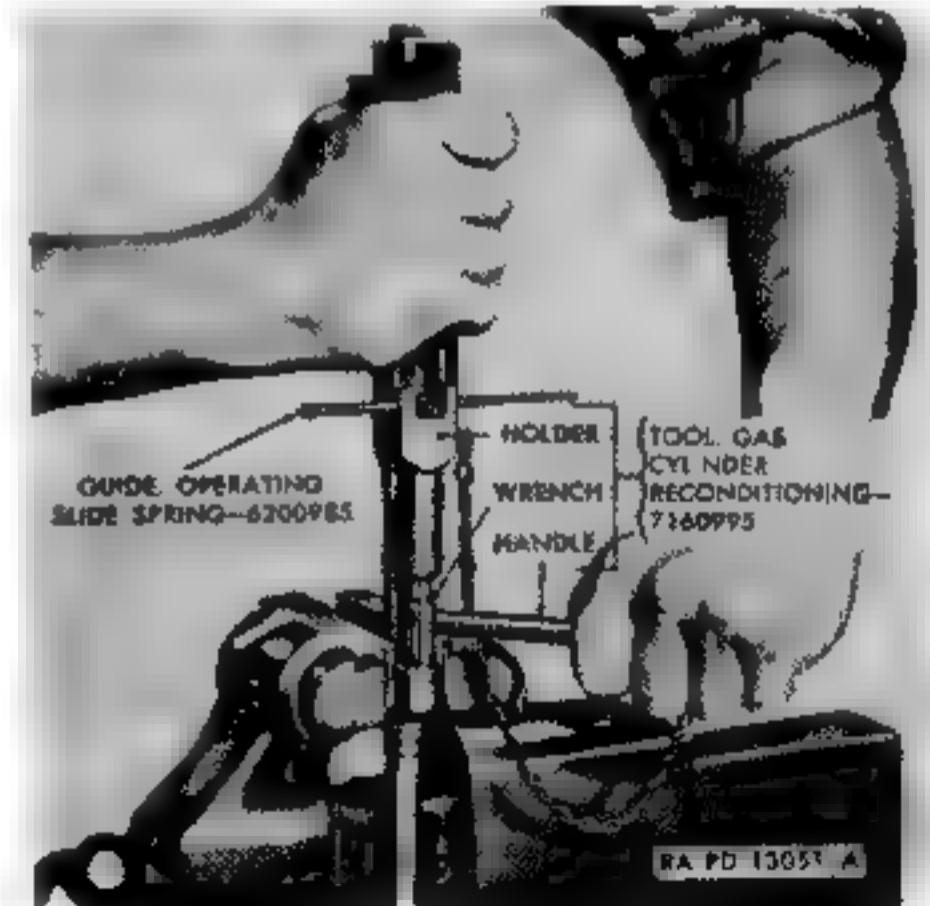

Figure 77. Removing piston nut from gas cylinder.
(1) The gas piston and piston nut are the only removable parts of the gas cylinder group. To remove the piston, clamp the barrel firmly in a vise with protected jaws, and using gas piston nut removing tool M5 5621065 or gas cylinder reconditioning tool 7160995 (with wrench component), unscrew the piston nut counterclockwise from gas cylinder (Fig. 77). Take care not to bur or twist prongs on nut when